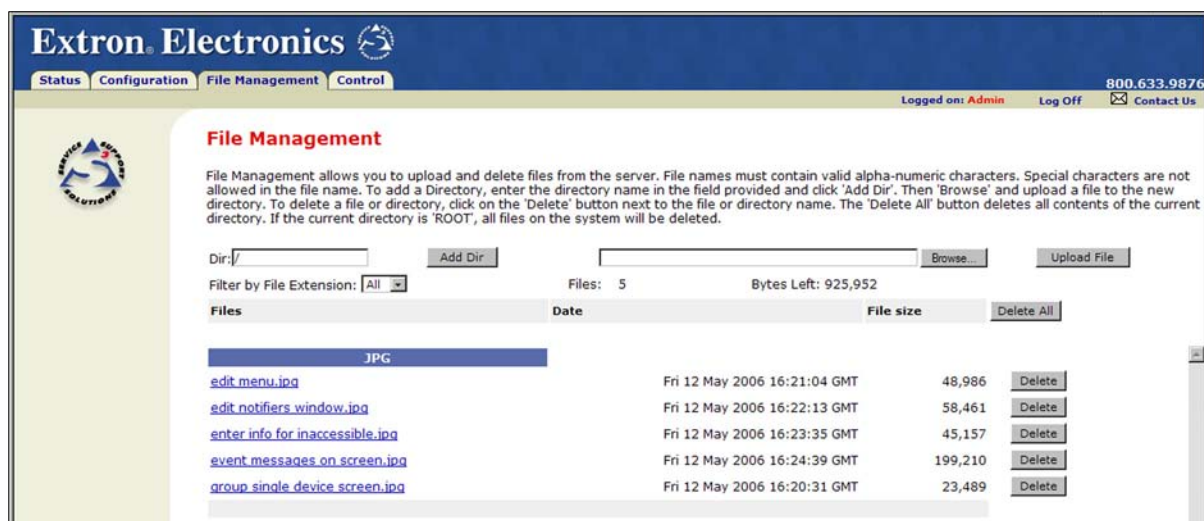

Figure 6-12 — File Management page
- NOTE** The files listed in figure 6-12 are shown for example only and may not be present on your switcher.